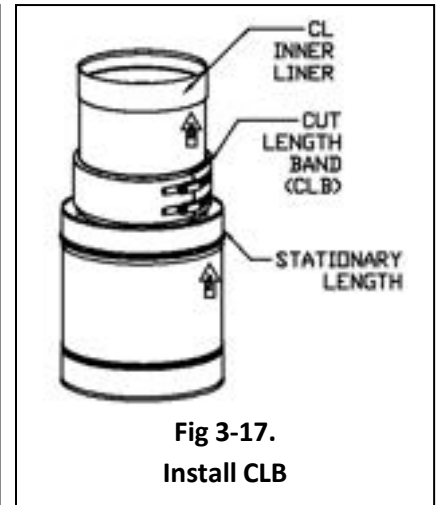

Fig 3-17. Install CLB
8. Position NAKS-CK Cut Band so it captures the expansion on the female inner and adjacent pipe/fitting (See Fig 3-17).